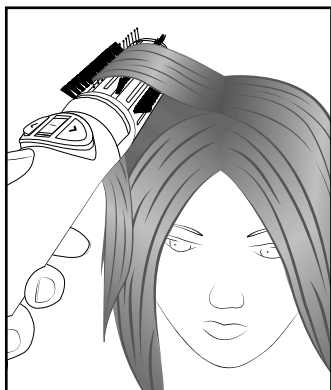

Fig. 2
- You can also achieve more fullness at the hairline by simply holding the round brush **8/9** for a few seconds just below the strand at the hairline (see Fig. 2). Do this without the rotation function, otherwise the hair will get caught in the bristles!